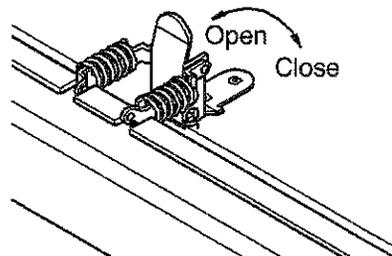

Figure 2 - Opening Glass Door
3. Open glass door by releasing 2 pairs of latches located on top and bottom of firebox (see Figure 2). You may need a screwdriver to extend spring loaded clasp over catch on door flanges. Use caution when opening latches.